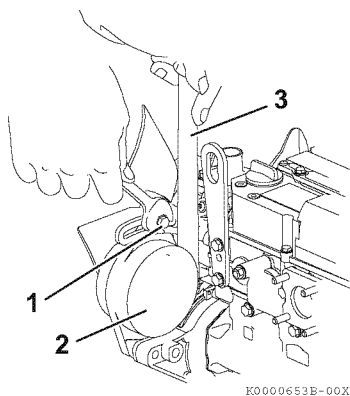

Figure 5-4
- If necessary, adjust the V-belt tension. Loosen the adjusting bolt (**Figure 5-4, (1)**) and move the alternator (**Figure 5-4, (2)**) with a pry bar (**Figure 5-4, (3)**) to tighten the V-belt to the desired tension. Then tighten the adjusting bolt.